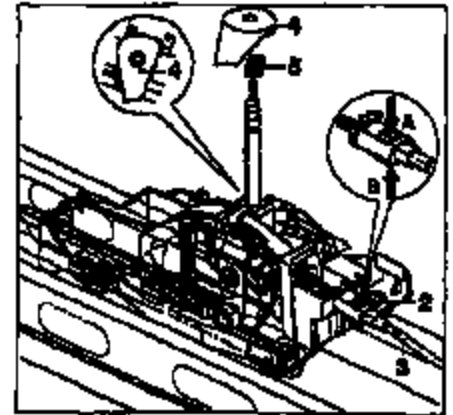

Figure 2
5. Unlock the red locking U-Clip (2, Figure 2), to do this, press the lugs of the red locking U-Clip inwards and at the same time, push locking button upward (B, Figure 2). **Important!** Only lift the red locking U-Clip far enough to allow the cable to move freely. It is very hard to reinstall the clip if it is completely removed.
7. Press cable sleeve (3, Figure 2) toward the selector lever.
8. Quickly release the cable sleeve (3, Figure 2). Only quickly releasing the cable sleeve will use the pre-tension force of the spring (not shown in figure) to correctly adjust the keylock cable.
9. Press the red locking U-Clip (2, Figure 2) downward (A, Figure 2) until it engages audibly, and push in once again with the screwdriver to be on the safe side.
11. Install cover plate on selector lever support. Make sure rotary valve (4, Figure 2) and spring (5, Figure 2) are seated correctly.